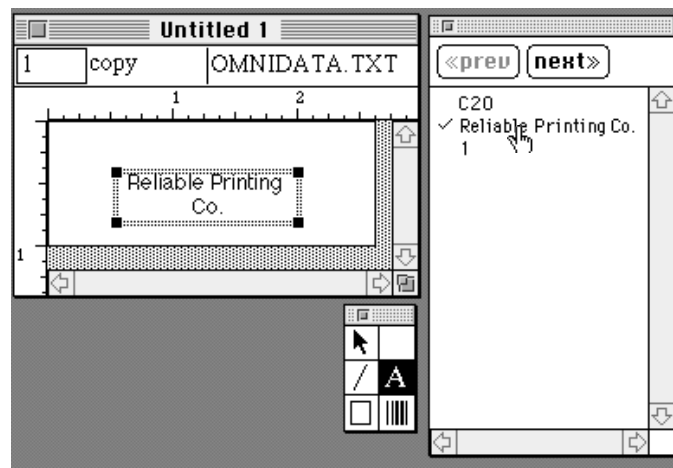

Figure 8-6 Selecting a Field from the Data Palette for Attaching to a Text Object
2. Select a data field from the data palette. In this example, click on the second field in the data palette. See Figure 8-6. A check mark appears before the data field.
Note that the text in Figure 8-6 is center justified. Center-justify the text in your text object by choosing **Center Justify** from the **Draw** menu.